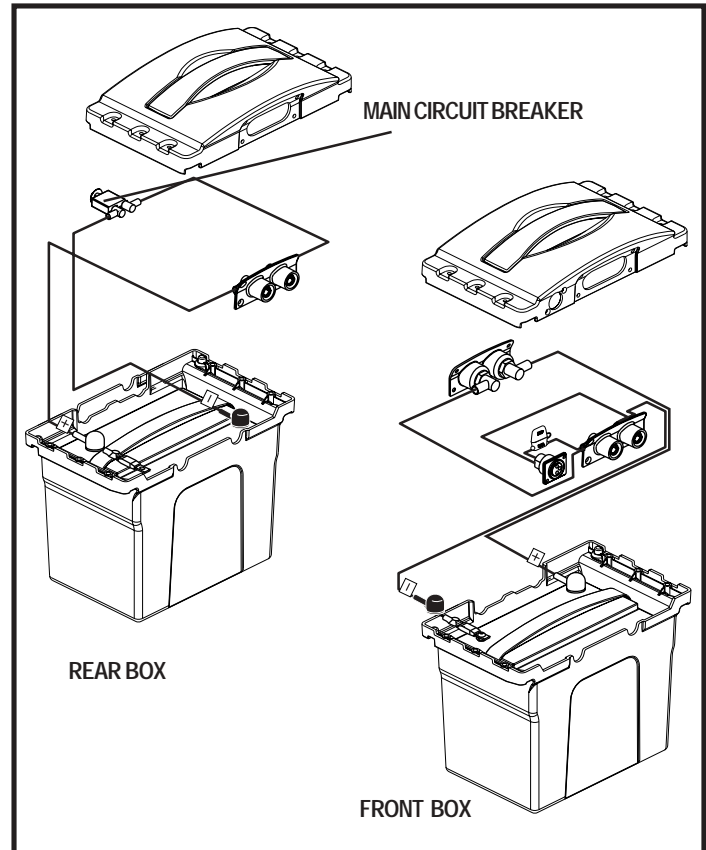

Figure 25. Battery Boxes
6. Place new batteries in the battery boxes. See figure 25.